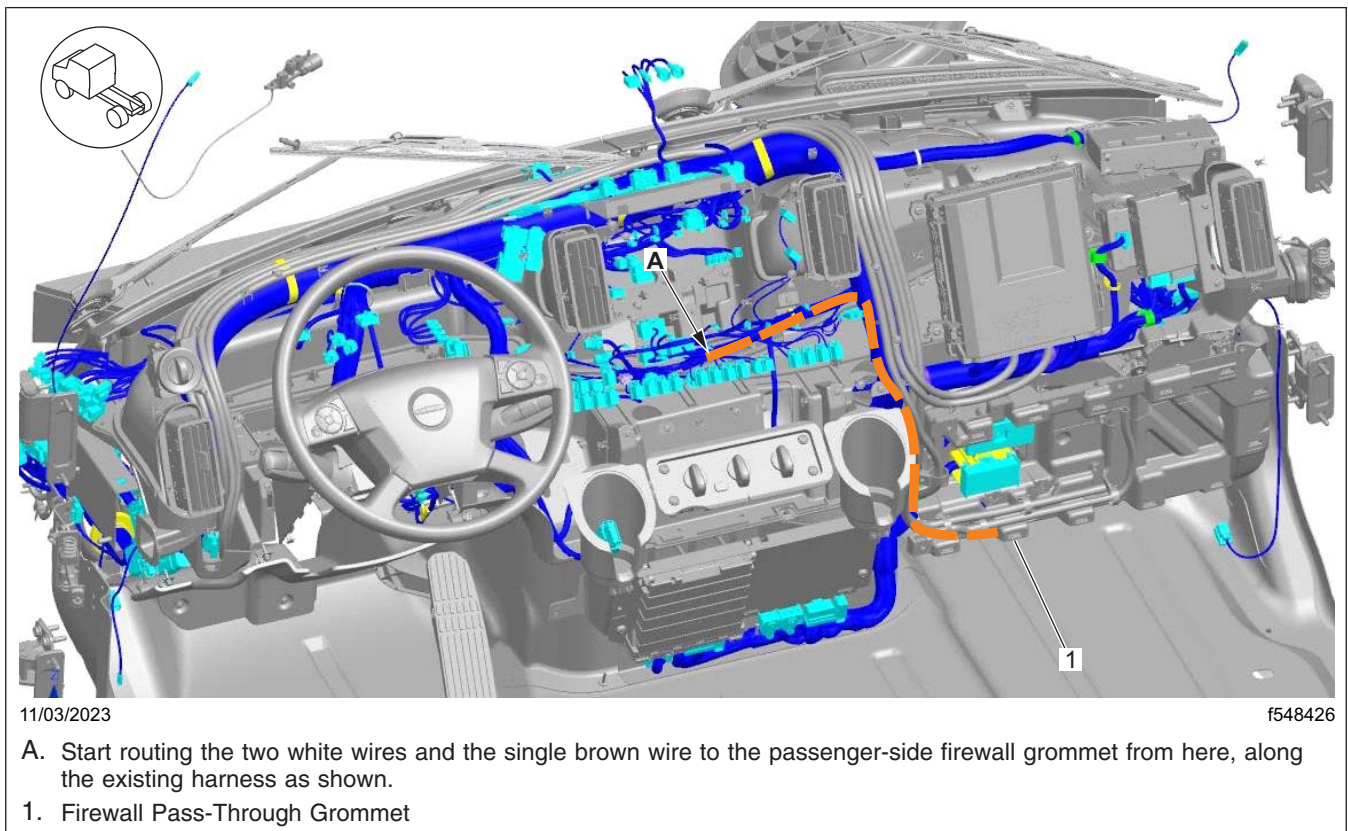
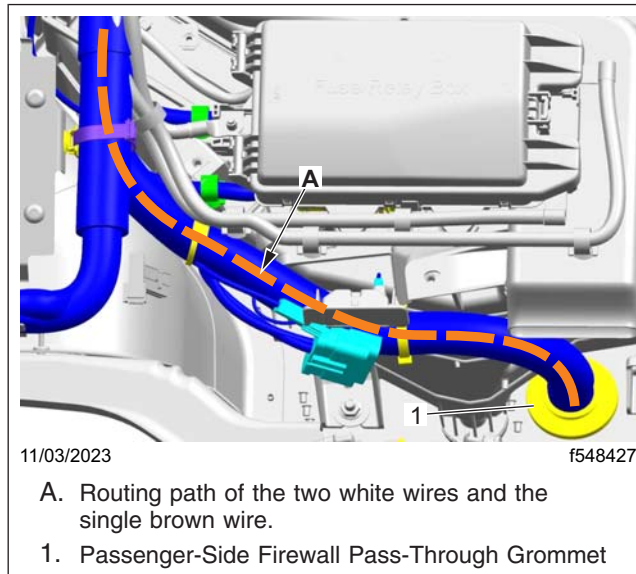

Fig. 60, Routing Path of the Two White Wires and Single Brown Wire from Behind the Center Dash Switch Panel to the Passenger-Side Firewall Pass-Through Grommet
Fig. 61, Routing Path of the Two White Wires and Single Brown Wire Near the Passenger-Side Firewall Pass-Through Grommet
- 26.1 Route the two white wires and the single brown wire from behind the center dash switch panel to the passenger side firewall pass-through grommet along the existing harness, as shown in **Fig. 60** and **Fig. 61**.